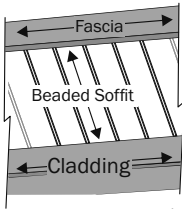

Fig. 1
- Should be run perpendicular to the structure whenever possible to result in the shortest pieces of material (pg. 23, figure1).